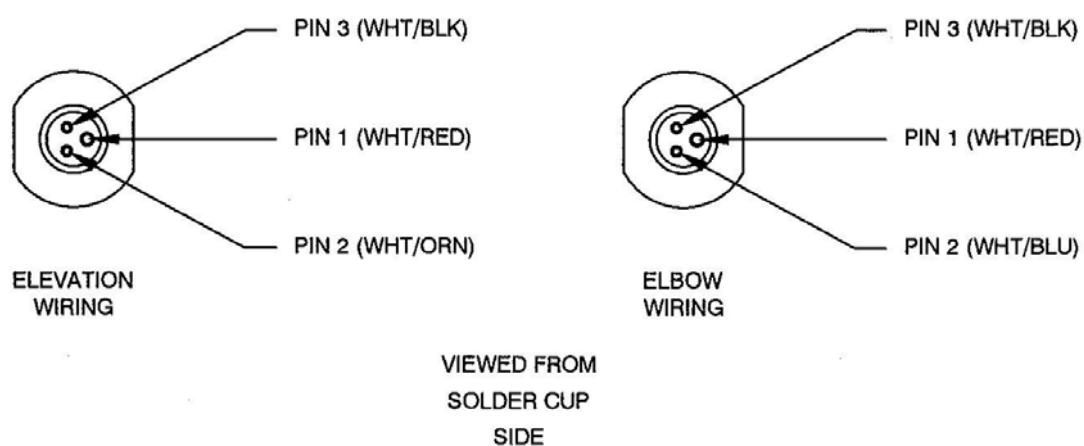

Figure 4-19 Elevation and elbow connector wiring
1. Install hydraulic fittings (14),(15),(16) and hollow hex plug (13) in manifold (12).
2. Install pressure reducing valve (5) and solenoid valve (22) in sub-manifold block (20).
3. Install O-rings (9),(18),(19) in counter bores of sub-manifold block above and attach to manifold plate so that the end of the pressure reducing valve inserts into the receiving hole in the manifold. Secure using screws (21) and Loctite 242.
4. Attach servo valves (8) and check valve (10) with O-rings (9) to manifold plate as shown using screws (6),(7). Position the servo valves so that the valve wiring terminals align with the arrows engraved on the manifold. If the manipulator is force feedback, transducer (27) is installed as shown per drawing and BOM 600-0230-01.
5. Wire connectors (3) per Figure 4-19 slip O-ring (2) on connectors and install in valve can (1). Install hydraulic fittings (4),(16) in valve can.
6. Place O-ring (11) in groove of manifold plate and O-rings (17) into counterbores of manifold plate. Attach valve can to manifold using screws (23) and Loctite 242.
7. Complete wiring of manifold assembly and install connector (25) in valve can using screws (26). Feed wires that run to forearm manifold through fitting.